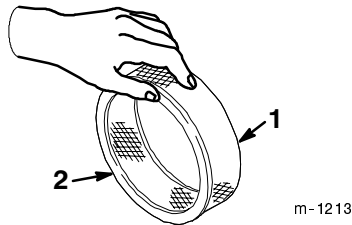

Figure 28
5. Lightly tap the paper filter on a flat surface to remove dust and dirt (Fig. 28).